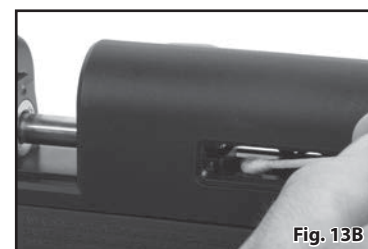

Fig. 13B
2. Using a cotton swab apply a graphite moly grease to the bore surfaces of the receiver where the bolt mechanism slides as shown in Figure 13B. CRC Industries Moly-Graph is a suitable grease for this application. Perform this procedure at approximately 200 shot intervals. Removal of the rubber filler in the cheek piece is recommended to gain access to the surfaces requiring lubrication.